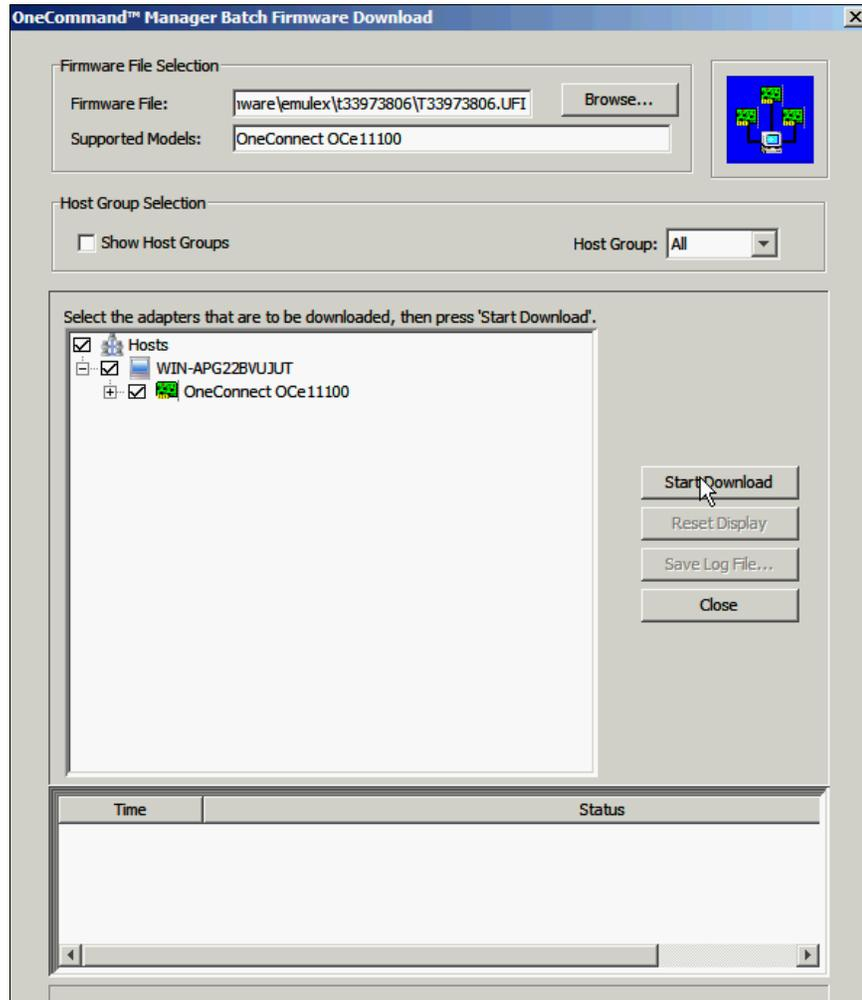

Figure 10-130 OneCommand Manager Batch Firmware Download window
- c. Back in the OneCommand Manager Batch Firmware Download window (Figure 10-130), next to the box where the adapters are selected, click **Start Download**.